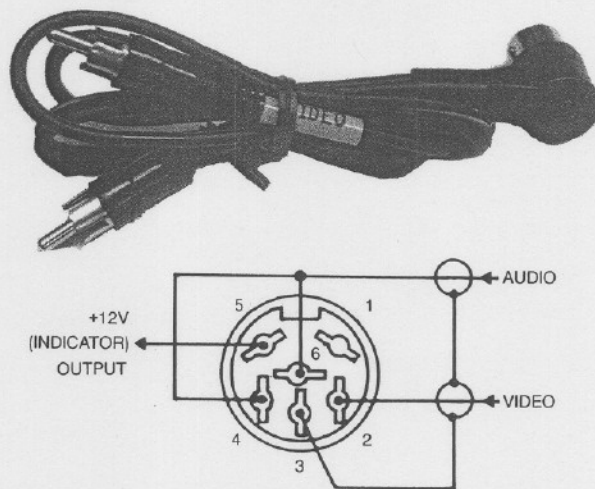

Figure 2-9. Wiring of the 6-pin CH-2 input accessory
Video and audio signals may be fed into the picture monitor section only by means of the 6-pin CH-2 input connector. A six pin plug with cables using RCA phono type plugs is supplied as a standard accessory. Figure 2-9 shows the wiring and feed connections for this unit. Select CH-2 with the INPUT SELECT switch (19).